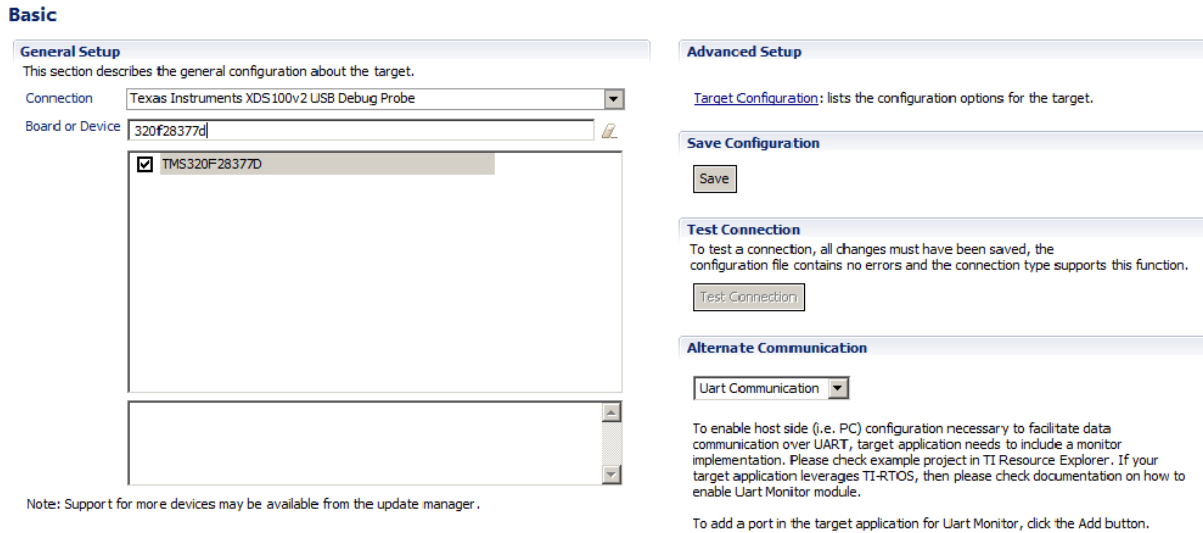

Figure 9. Configuring a New Target
6. This should open up a new tab as shown in Figure 9. Select and enter the options as shown: